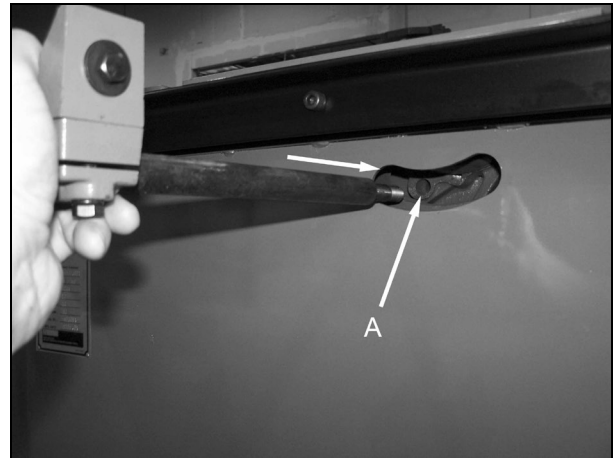

Figure 17
2. Insert the blade guard support rod into hole A as shown in figure 17.